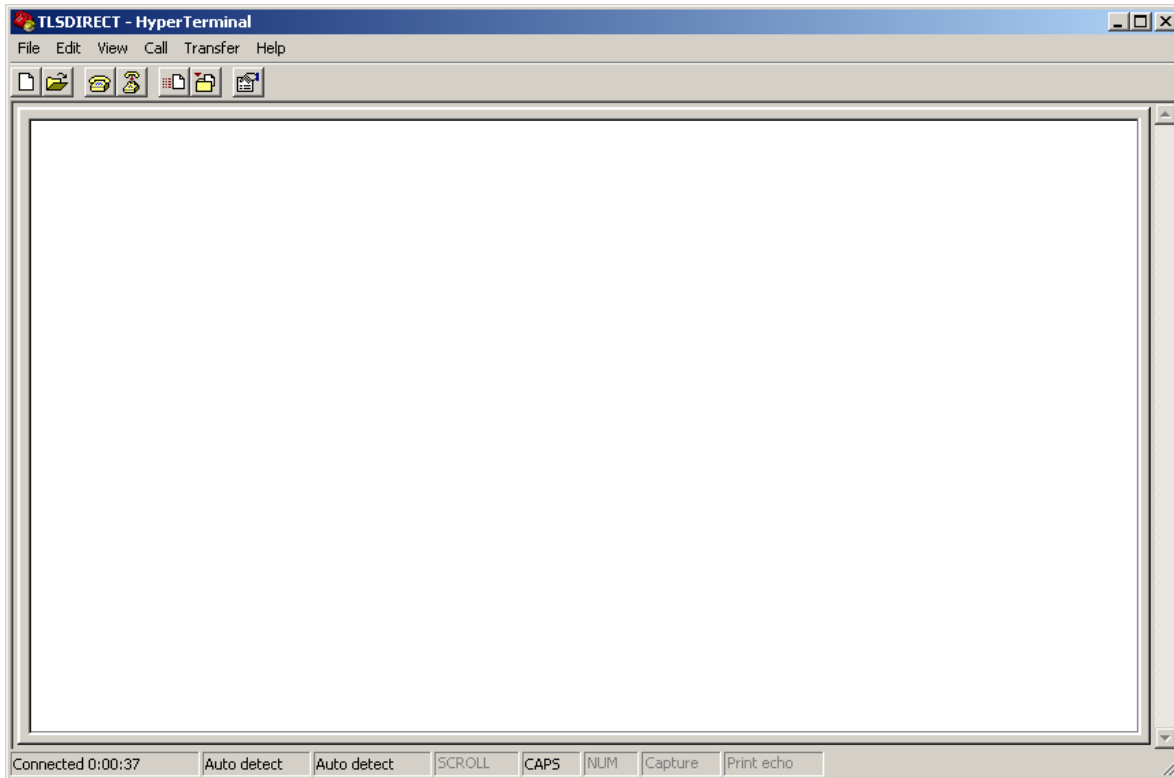

Figure 5-13. HyperTerminal main window
6. After entering your port settings, the program's main window appears (Figure 5-13).